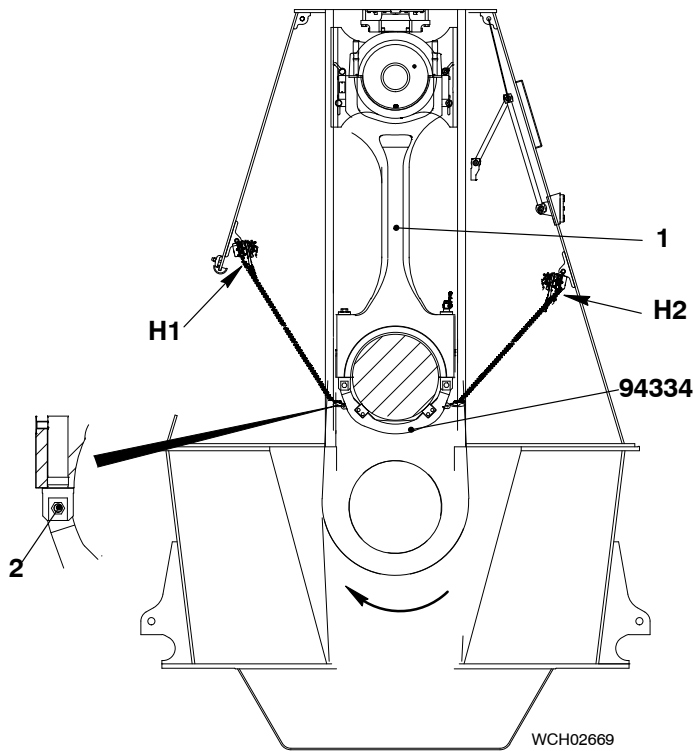
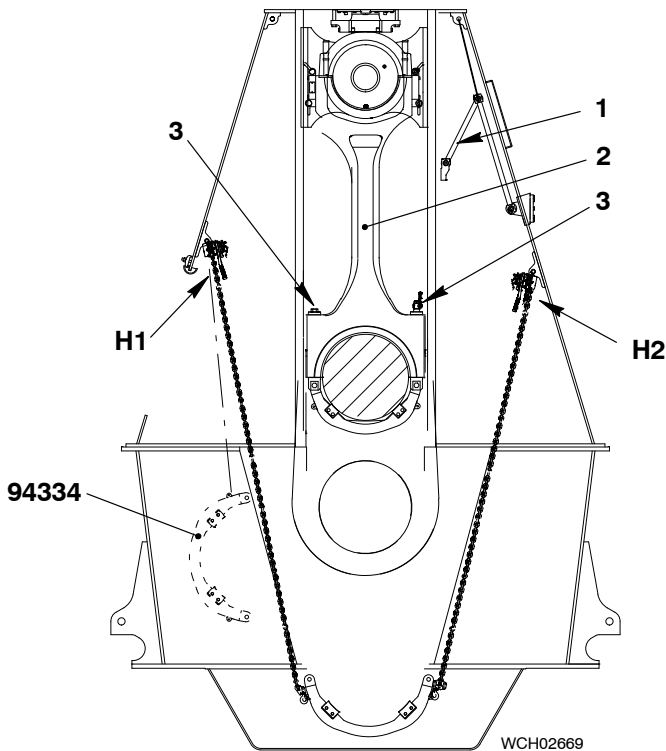

Fig. 18
Fig. 19
- 40) Operate the turning gear to move the connecting rod (1, Fig. 18) in clockwise to TDC.
- 43) Remove the two nuts and bolts (2) from the holder (94334).
- 44) Operate the manual ratchets (H1 and H2, Fig. 19) to lower the holder (94334).
- 47) Attach the toggle lever (1) to the connection piece on the connecting rod (2).
- 48) Remove the rods (3) from the connecting rod (2).